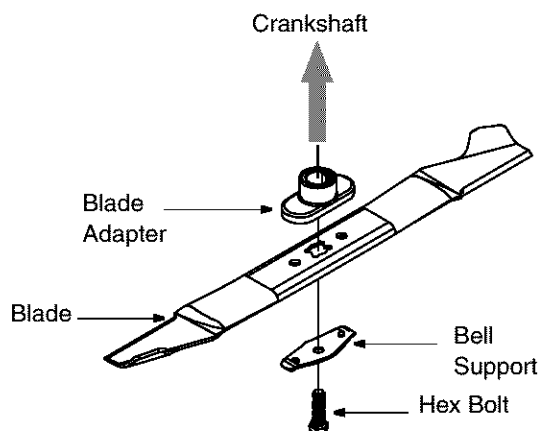

Figure 18
- Remove the bolt and bell support which hold the blade and adapter to the engine crankshaft. See Figure 18. Remove the blade and adapter from the crankshaft.